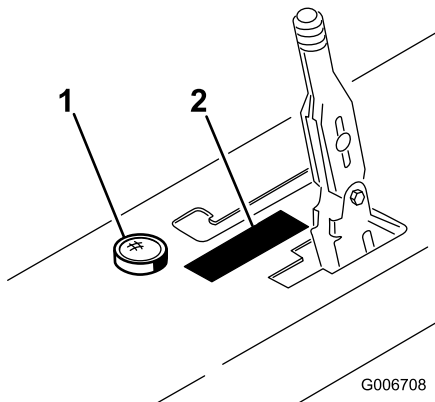

Figure 21
Affix circular level to top of console cover positioning as shown in Figure 21.
1. Affix operation decal to top of console cover positioning as shown in Figure 21.